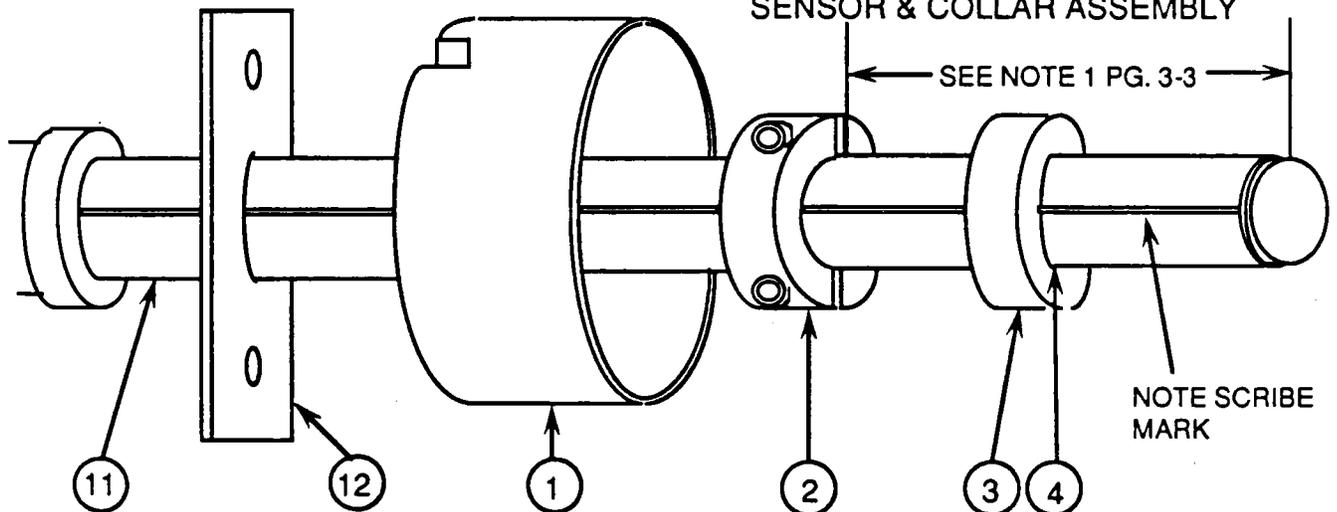

FIG. 2
2. Slide items 12 and 1 onto sensor (item 11) use fig.2, pg. 3C-2.
3. Position collar (item 2) onto sensor and use above formula to calculate correct dimension. Please note that the collar should already be installed by the factory on new orders, the collar dimension will have to be changed only if pipe dimensions are other than given.
4. Slide brass collar and o-ring assembly (items 3 and 4) onto end of sensor and butt up against the split collar (item 2).
The underwater sensors for the Series 4000 flowmeter are premounted on a stainless steel plate at the factory (see Figure 2). The sensor cables are secured to the plate with clamps. This plate is then formed into a hoop and inserted into the pipe just upstream of the 2-inch conduit opening in the top of the pipe or upstream of manhole entrance. The sensor cables are then pulled through the conduit and attached to the sensor connections on the Model 4000 electronic enclosure.